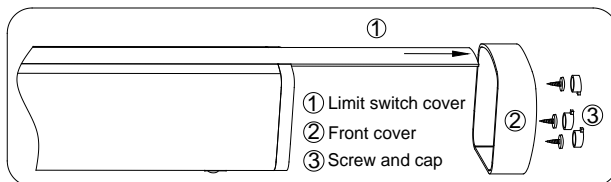

Fig.17
- Back off the screw retaining the front cover, remove the front cover. Slide out the aluminium limit switch cover. (See Fig.17)